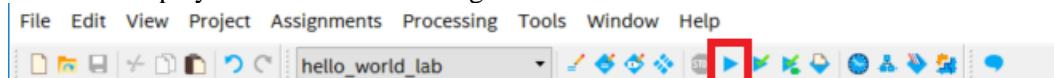

Figure 31: Compilation Button on Quartus Toolbar
- Click on the play button as shown in Figure 31